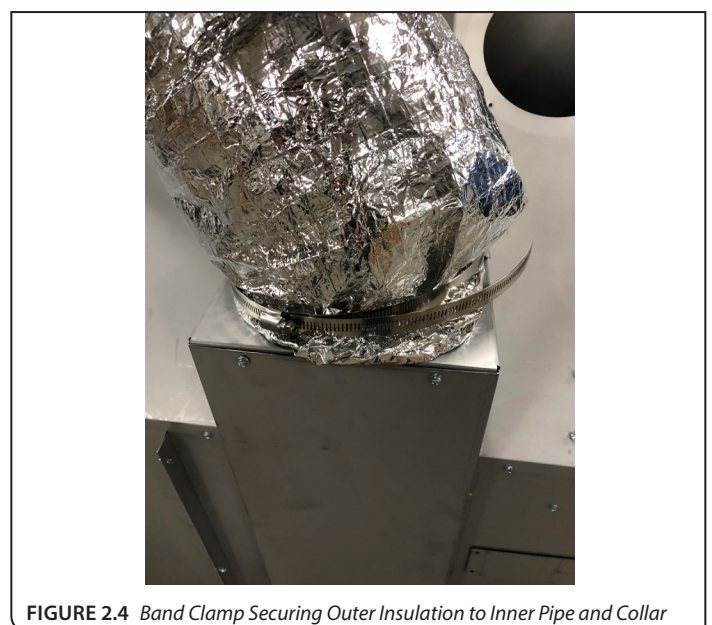

FIGURE 2.4 Band Clamp Securing Outer Insulation to Inner Pipe and Collar
10. Use the band clamp to secure the outer flexible pipe insulation to the inner pipe and collar. See **FIGURE 2.4**.